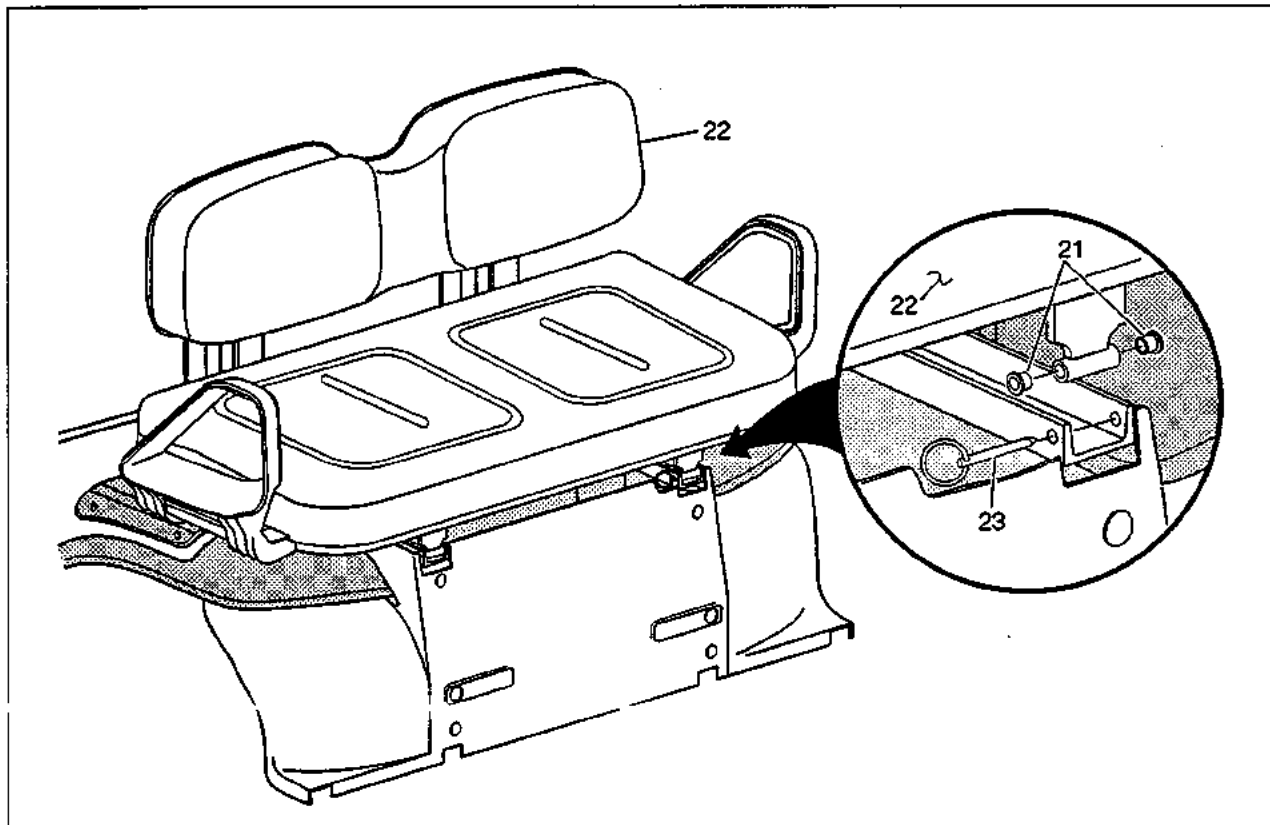

Fig. 6
1. Insert the nylon bushings (item 21) into the pivot brackets on the seat assembly (item 22) (4 places). (See Fig. 6)
3. Insert the hitch pin (item 23) through the pivot from the center of vehicle (2 places). (See Fig. 6)